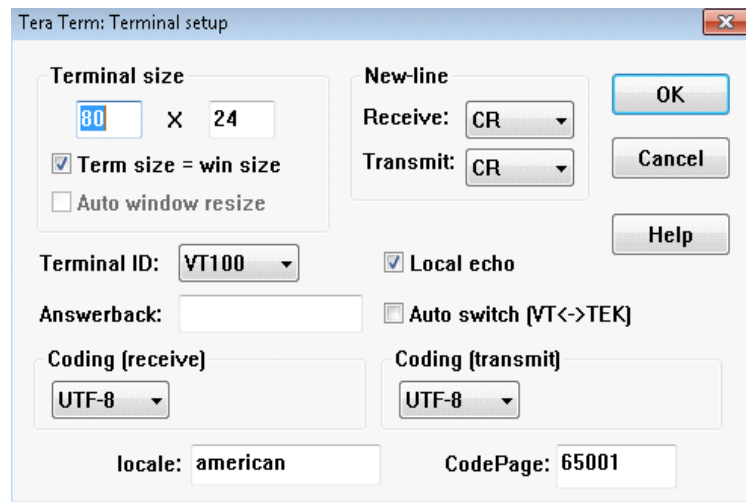

Figure 4-3: Enable Local Echo
- Enable **Local echo** in the *Setup/Terminal setup* window (see Figure 4-3).